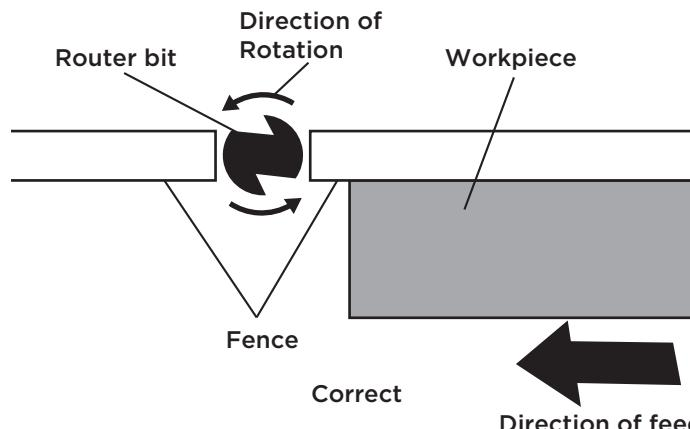

Fig. 15a
PERFORMING A ROUTING OPERATION (Fig. 15a-15b)
- A groove can be cut in the workpiece by adjusting the fence back from the cutter (4). When cutting a groove, feed the workpiece from right to left. When widening an existing groove, make certain that the side being cut is against the leading edge of the cutter. This would be the side farthest from the fence when the workpiece is fed from right to left, as shown in Fig. 15a-15b.